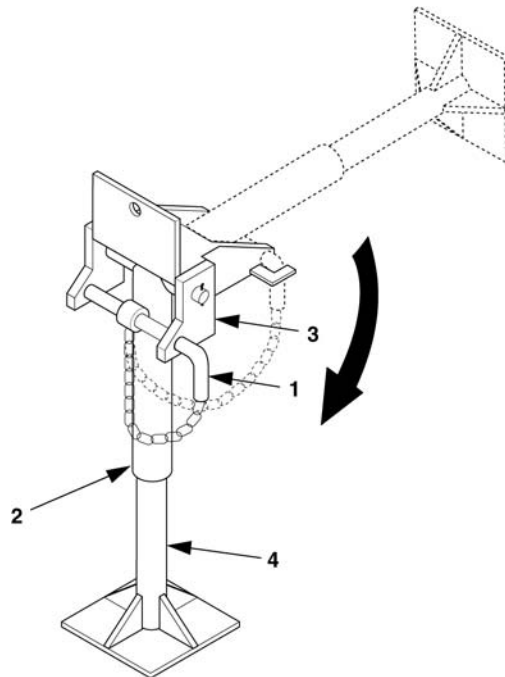

Figure 2-3. Jack, Leveling-Support.
- e. Pull out pin (1, Figure 2-3) that secures rear leveling-support jack (2) in travel position.